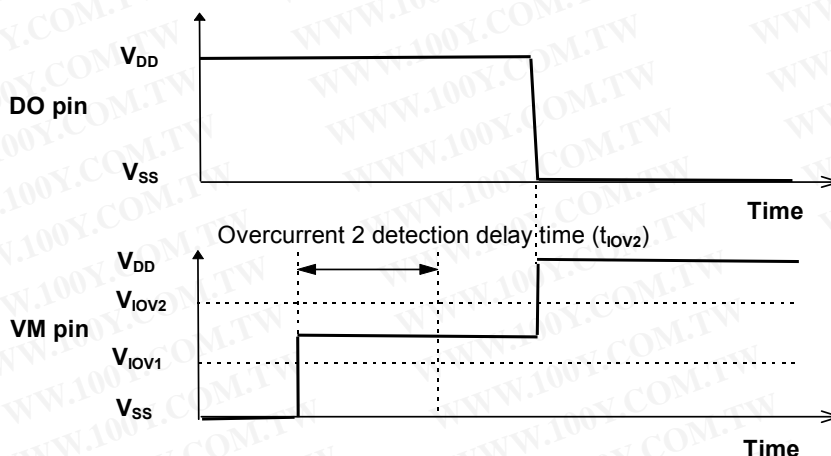

Figure 5
2. Counting for the overcurrent 2 detection delay time starts when the overcurrent 1 is detected. Having detected the overcurrent 1, if the overcurrent 2 is detected after the overcurrent 2 detection delay time, the S-8241 turns the discharging control FET off as shown in the figure 5. In this case, the overcurrent 2 detection delay time may seem to be longer or overcurrent 1 detection delay time may seem to be shorter than expected.